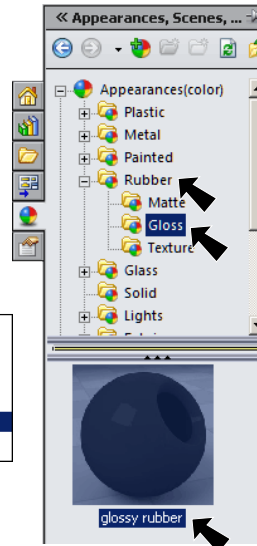

Fig. 8
Step 2. In the Appearances Task pane, expand **Rubber**, click **Gloss** and in the lower pane select **glossy rubber**, **Fig. 8**.